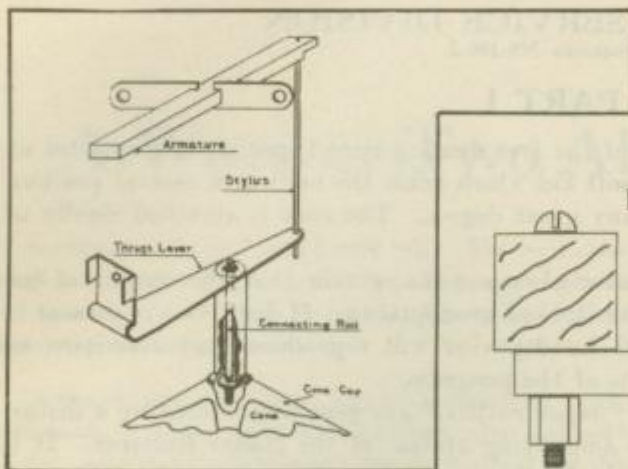

Fig. 1—Moving part of motor
Figure 1 shows a rough sketch of the complete armature assembly and its relation to the cone. The armature vibrates between the pole pieces (not shown), this motion being transmitted through the stylus to the thrust lever. The thrust lever is held rigidly to one of the motor side pieces. It is attached rigidly to the cone by the connecting rod. Dirt at any of these points may cause distortion.
On inspecting the RCA Model 100 Loudspeaker, note whether or not the stylus is bent, if so straighten it. The cone is attached to the connecting rod by means of a small nut "B", Figure 1. The end of the connecting rod is threaded. Make certain that the cone is drawn up tight to the connecting rod.
2. Remove the small nut holding the cone to the connecting rod shown in Figure 1.
9. Unsolder the thrust lever from the stylus and remove Point "E", Figure 1.
12. Solder the stylus to the thrust lever (Figure 1).